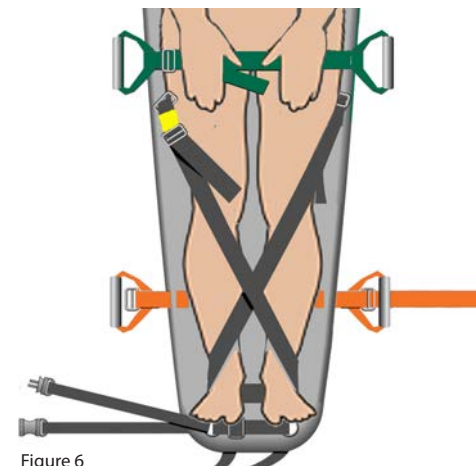

Figure 6
4. **Foot Figure of 8:** Use strap 4 into the yellow buckle on 4a to form a figure of 8 around the feet as shown on Fig 6. Padding around the ankles and legs should be added if required.